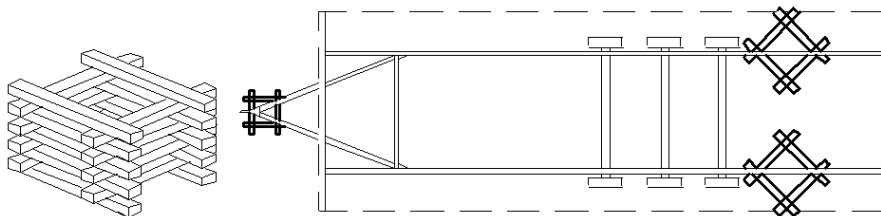

Figure 26. Stack 4" x 6" by 5' long timbers as shown to form safety timbers. Place safety timbers under home behind axle area and under hitch.
Utilize proper cribbing. Manufactured homes weigh several tons. No one should be under the home (whether it is moving or stationary) unless proper cribbing is in place (**Figure 26**). Failure to utilize proper cribbing may result in serious injury or death.
- Make sure adequate safety cribbing (**Figure 26**) is in place whenever the home is placed on jacks.
2. **Install cribbing.** Install safety cribbing (**Figure 26**).